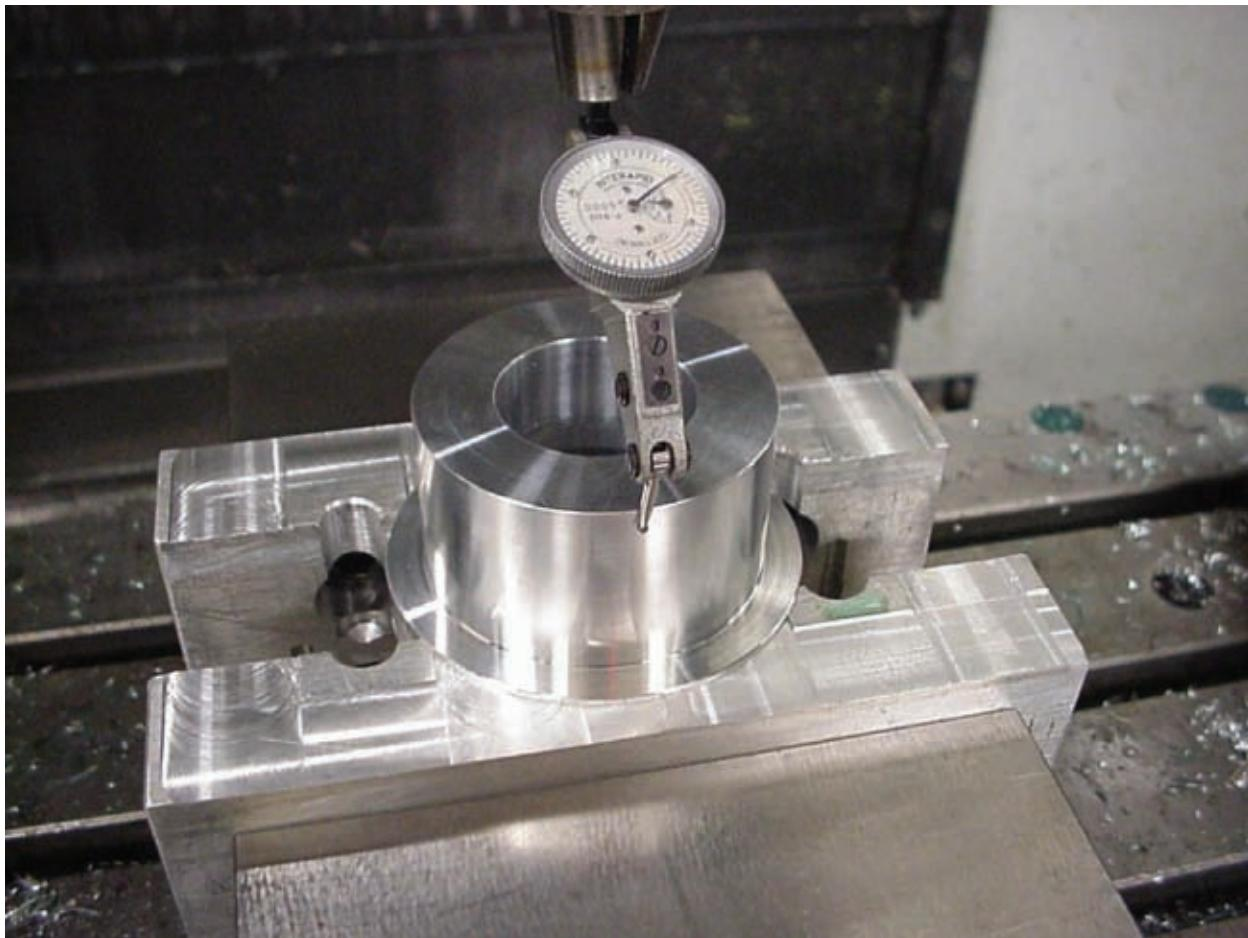

Figure 2-13 Perishable vise jaws can be used effectively to hold parts that may be difficult to hold using other methods.
12. Use perishable vise jaws. (see Fig. 2-13)